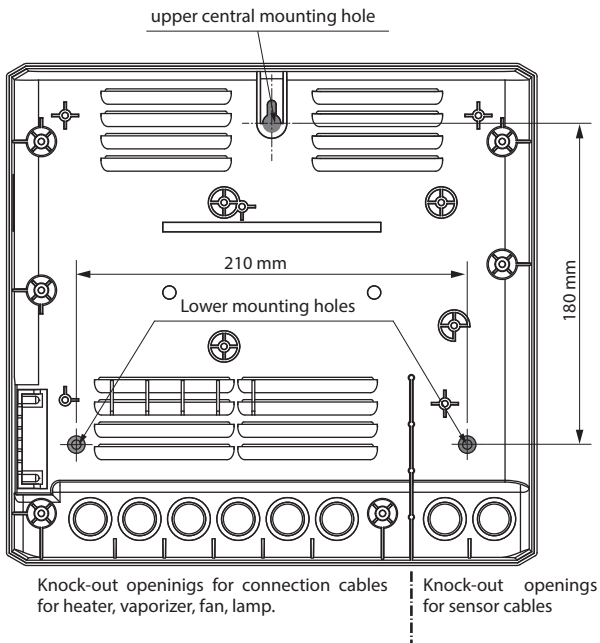

**Fig. 2**
The holes for the provided 4 x 25 mm screws are to be installed according to the dimensions shown in Fig. 2.
2. Use the upper central screw to hang the relay box. Make sure that this screw stands out approx. 3 mm (detail in Fig. 2).